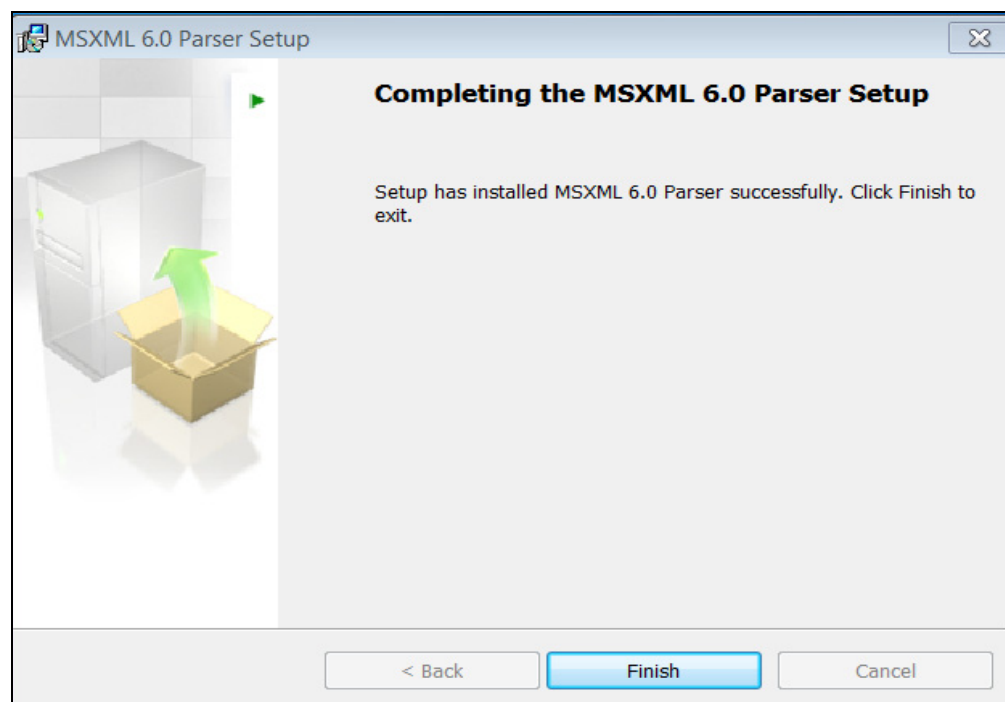

FIGURE 2-7: MSXML Parser Setup Window.
10. After the setup is complete, the MSXML Parser used by the Chip Manager software is installed, as shown in Figure 2-7.